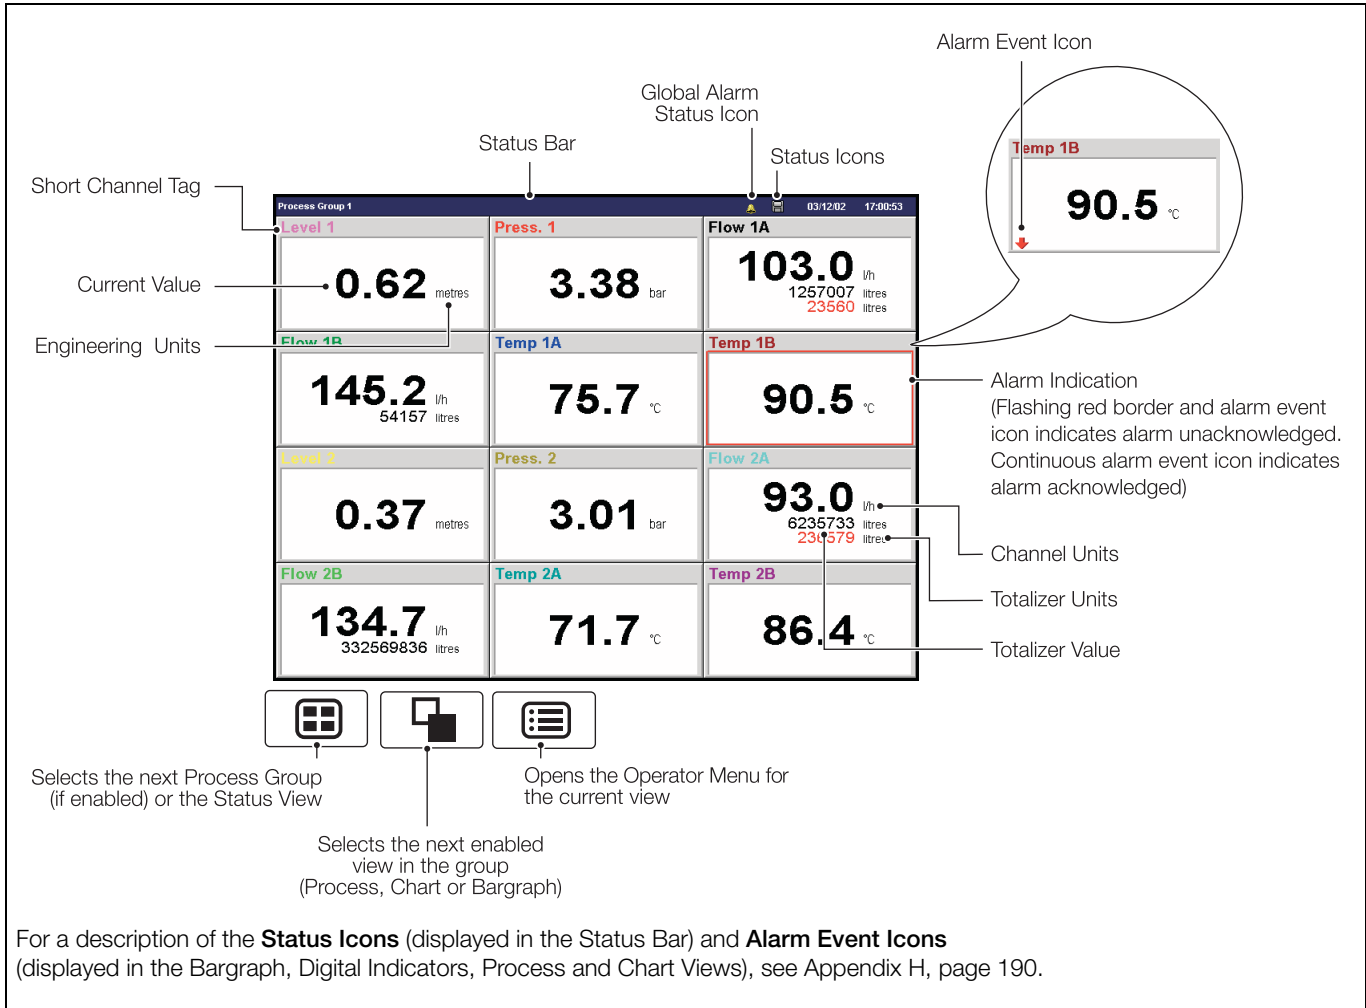

Fig. 4.7 Digital Indicator View
- Active unacknowledged alarms in the current process group are identified by a red border around the value in the associated channel indicator, alternating with a red Alarm Event icon in the bottom left hand corner of the same indicator. Active acknowledged alarms are identified by a continuous red Alarm Event icon in the bottom left hand corner of the indicator – see Fig. 4.7, page 24.